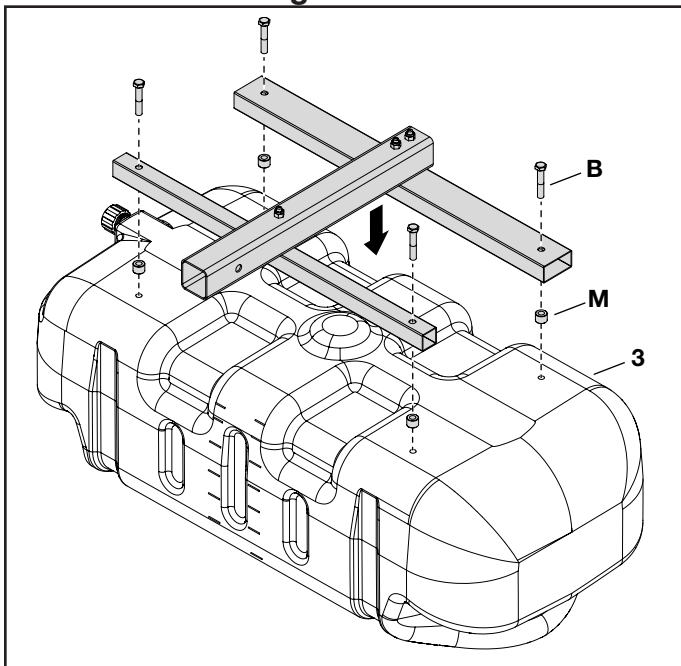

FIGURE 4
STEP 4: (SEE FIGURE 4)
- Attach the tube frame assembly to the 15 gallon tank assembly (3) using four hex bolts (B) and four spacers (M).